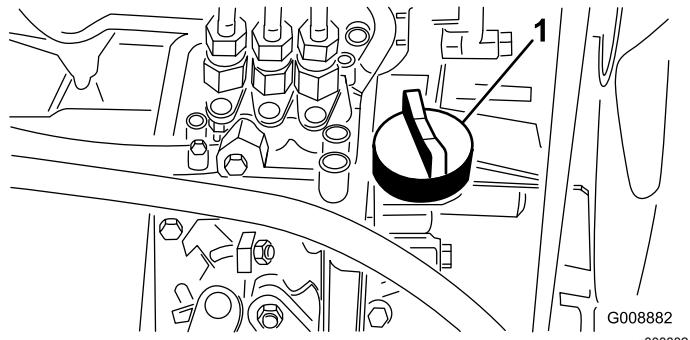

Figure 21
4. If the oil level is low, remove the oil fill cap (Figure 21) and gradually add small quantities of oil, checking the level frequently, until the level reaches the Full mark on the dipstick.